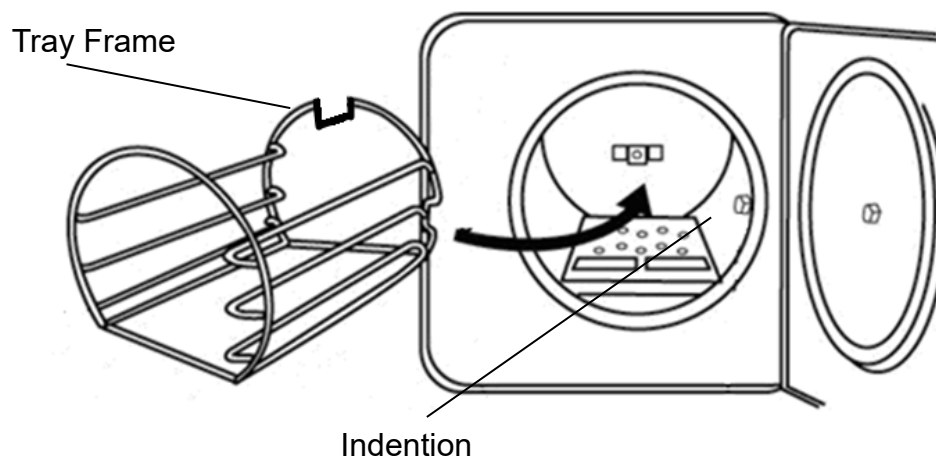

Figure 31
- B. Install the tray frame as shown in Figure 31 (standard accessory)
⚠ CAUTION: The frame should be installed as in Figure 31 below. The indentation of the frame will pass the bushing in the chamber.